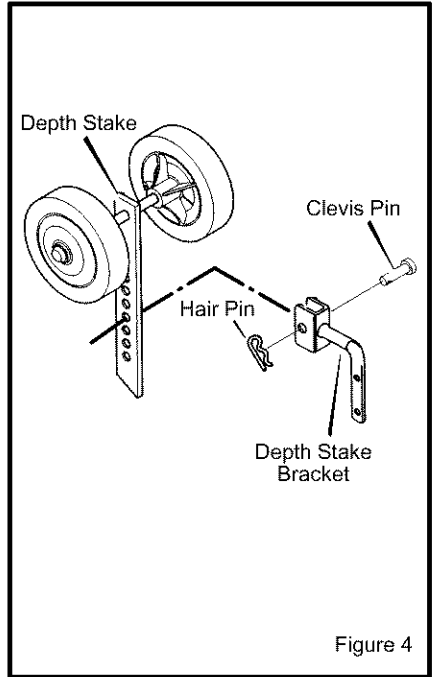

Figure 4
1. Remove the **hairpin** and the **clevis pin** from the **depth stake** (see Figure 4).